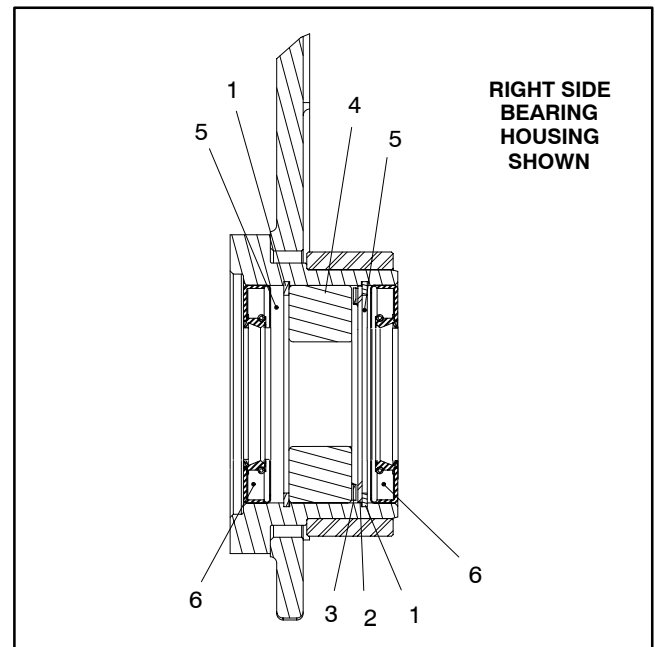

Figure 46
2. To assemble right side bearing housing (Fig. 46):